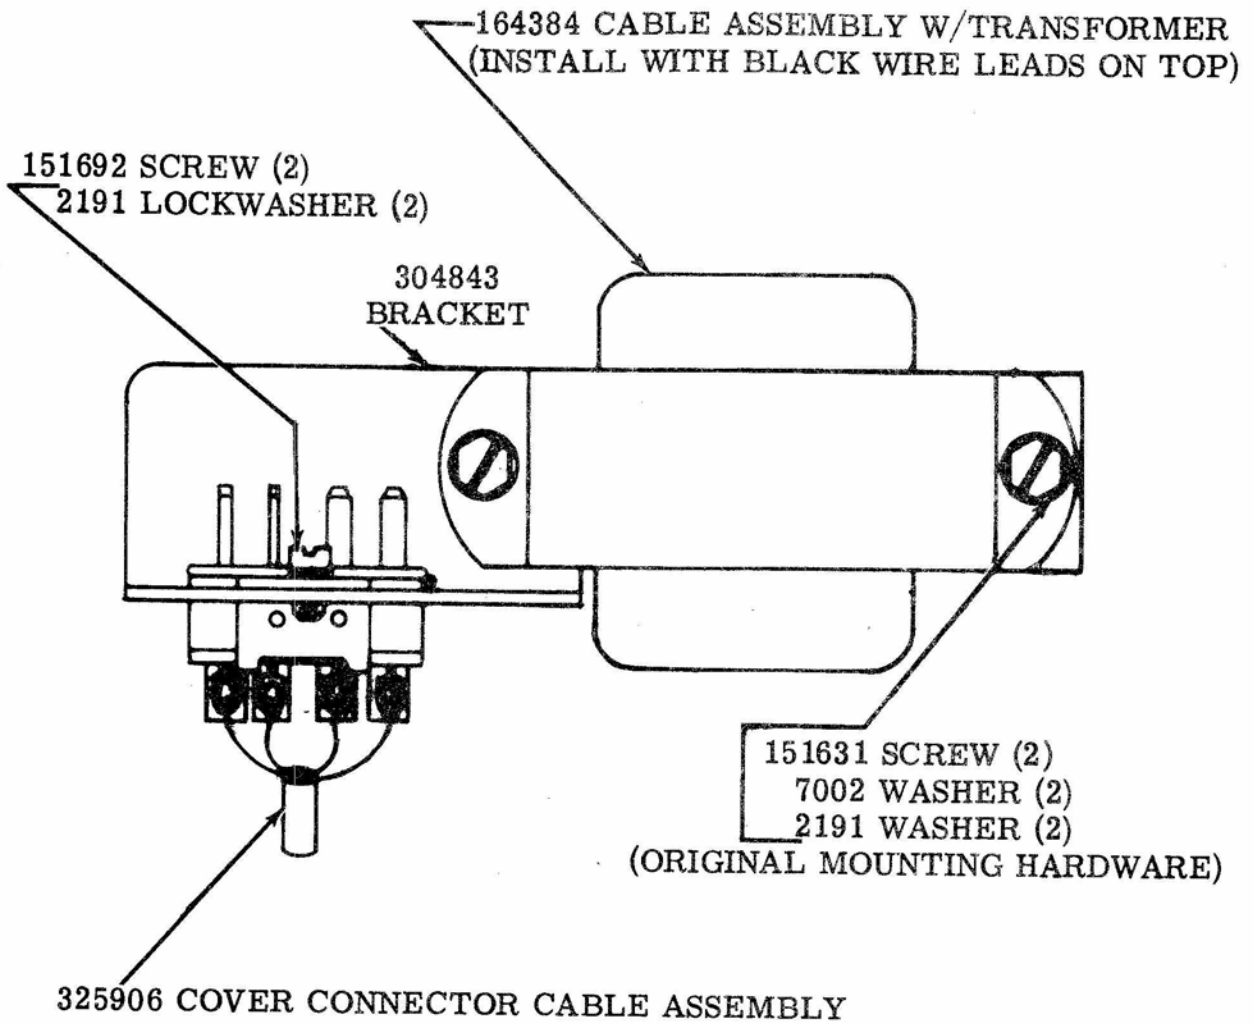

Figure 2 - Modification of a LPC206 Cover to a LPC213 Cover
- (c) Refer to 4257WD of the LPC206 cover, and disconnect the 173877 cover connector cable assembly from the cover terminal block (T).
- (f) Referring to Figure 2, fasten the 325906 cover connector cable assembly to the 304843 connector mounting bracket with two 151692 screws and 2191 lockwashers. Mount the 304843 bracket and transformer to the left side of the cover, using the previously removed mounting hardware. Do not fasten any ground wires to the mounting screws.
- (h) Route the 325906 cover connector cable assembly downward between the cover and support channel at the left rear corner of the cover. Connect the cable to the cover terminal block (T) in accordance with 8325WD.
- (j) Refer to 8328WD sheet 1 and insert the 325912 cord w/terminals through the grommet on the right rear side of the cover. Route and tie the cord along the inside of the rear support channel as indicated. Connect the cord to the cover terminal block (T) in accordance with 8328WD. If the cover is equipped with a LPW300 paper winder, connect it to the 325912 cord by means of the associated connectors. Replace the insulator cover on the terminal block and reclamp the copyright and margin indicator lamp cables by first taking up the cable slack at the terminal block so that the two cables are held taut to the side of the cover.